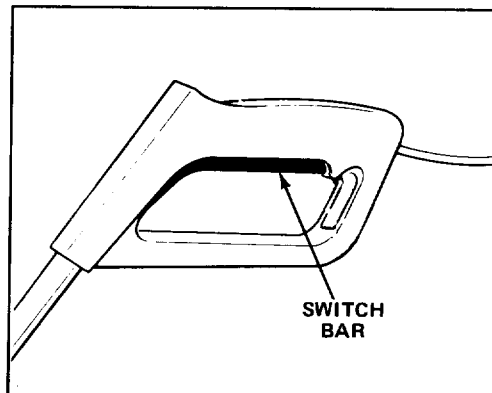

Figure 4
3. To turn the trimmer on, squeeze the switch bar on handle (Fig. 4). The